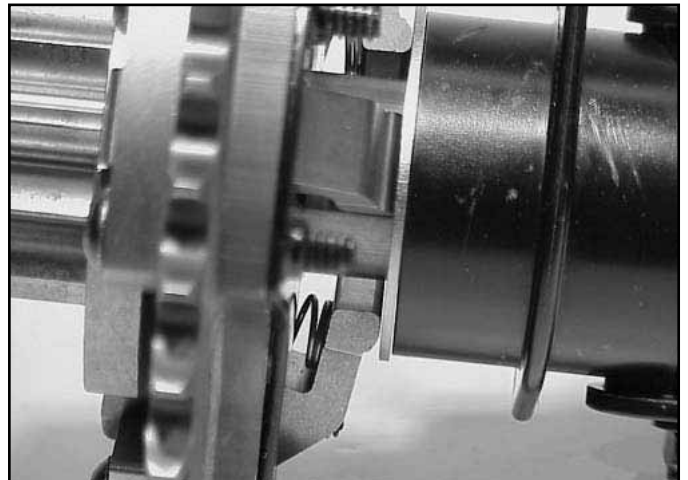

Fig 203
14. Make sure the pawls are up against the thrust washer and the springs are not binding and are compressing properly (Fig. 203).